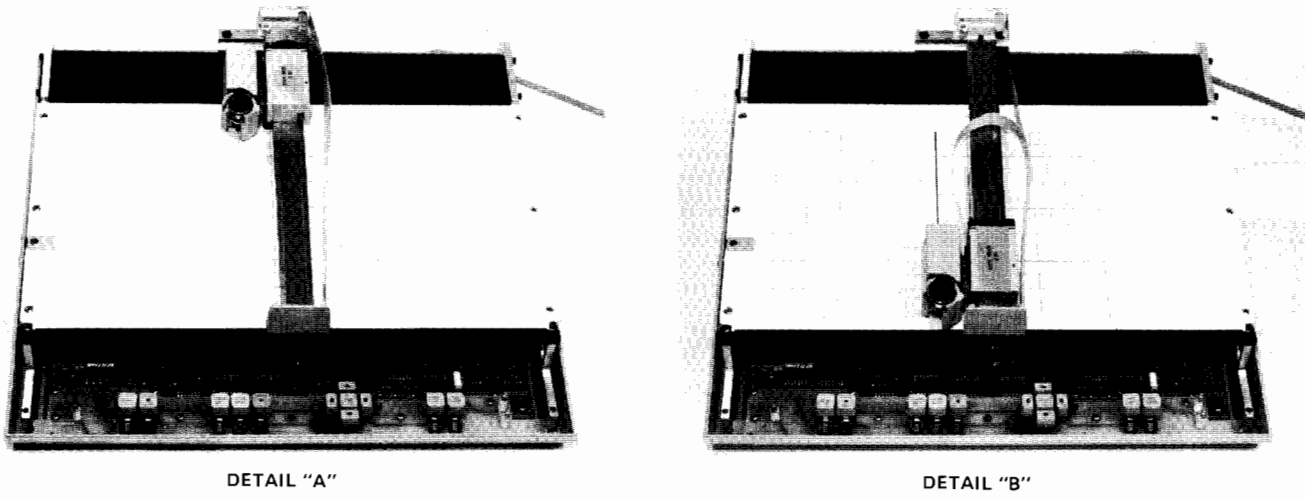

Figure 3-14. Pen Arm Alignment Test Plot
- h. Using an optical comparator, measure the distance between the plot line and the grid line at both the top and bottom of the graph. Allowable difference is ± 0.13 mm (0.005 in.) or less. (See Figure 3-14.)